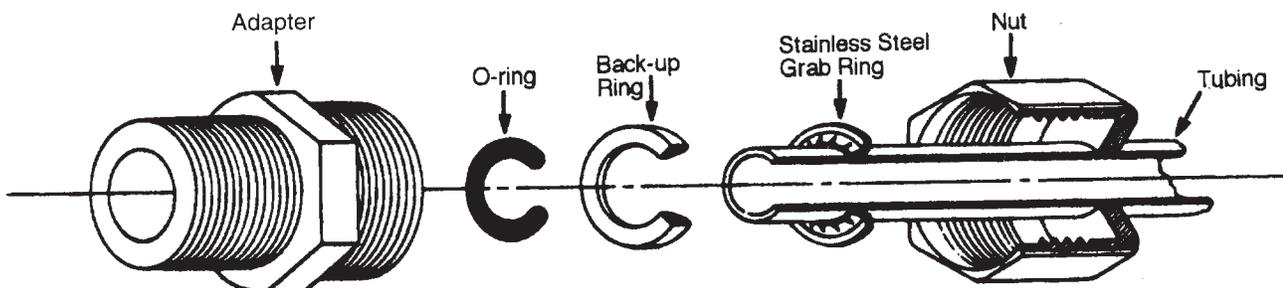

Figure 2 Typical Polypropylene Tubing Adapter Installation
1. Completely disassemble the fitting. Refer to Figure 2 to familiarize yourself with the names of the component parts.
3. Place the grab ring and backup ring in the hex nut in the order and orientation shown in Figure 2. Thread the nut into the adapter. **DO NOT** use the o-ring at this time.
1. Locate the reject water tubing. This is the 1/4" O.D. tubing that has an adapter on one end and no connector on the other end. Remove the nut, grab ring, backup ring and o-ring from the reject water fitting located at the lower right of the NANOpure Infinity UF. See page 10 Figure 2 for part identification.